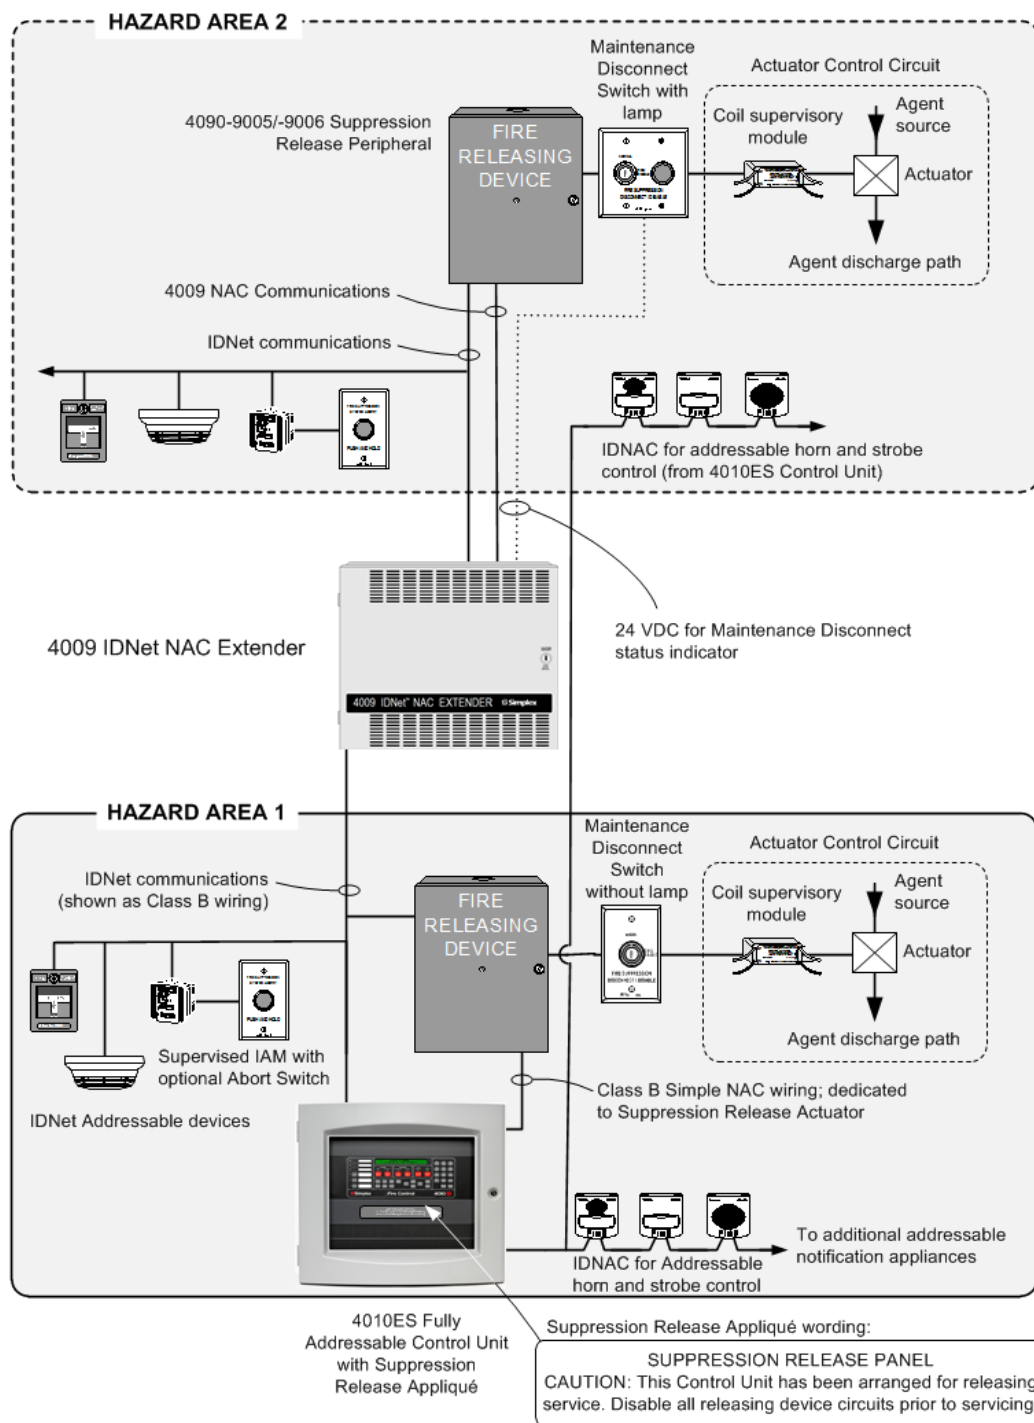

Figure 2: One-Line Connection Reference
2. **Coil Supervision Module 2081-9046** must be wired electrically before the actuator and located in the actuator wiring junction box. See Figure 2. The connected RAC provides continuity supervision of the actuator coil and wiring and provides short circuit supervision to the coil supervision module.